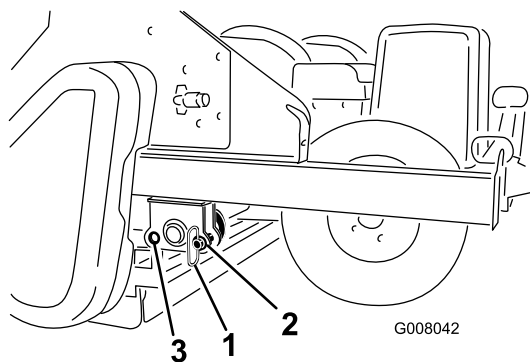

Figure 15
12. Remove the storage pins from the front hole position and insert into the rear hole position during operation (Figure 15).